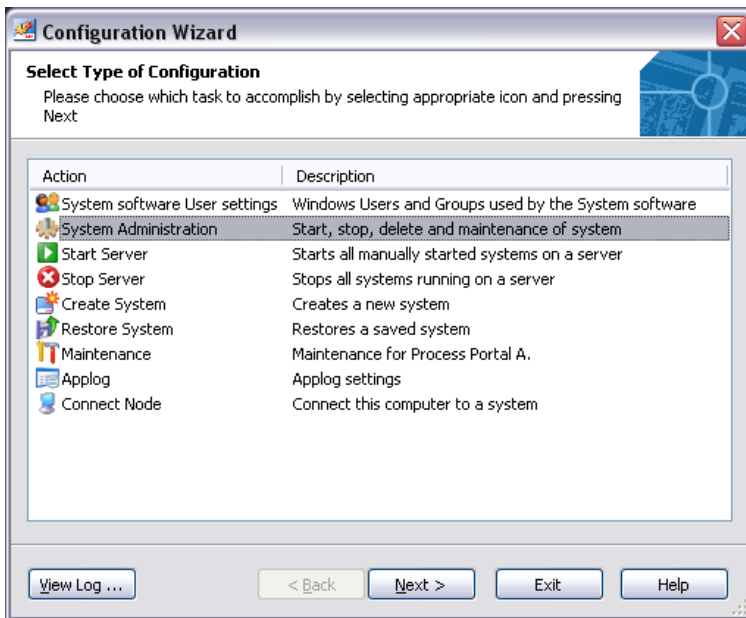

Figure 6. Create Remote Access Server
1. Select the **System Administration** option, click **Next**, see Figure 6.